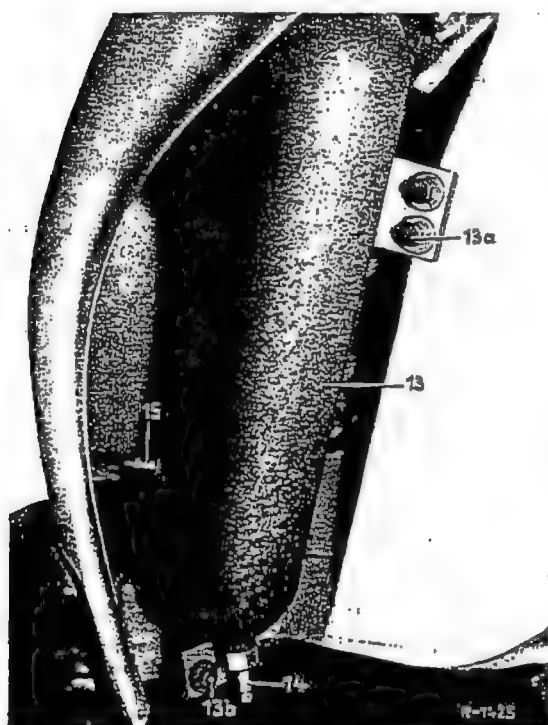

Fig. 32-16/1
4. Disconnect both hose lines. Unscrew hexagon screws at the top (13a) and hexagon nut at the bottom (13b) (Fig. 32-16/1).